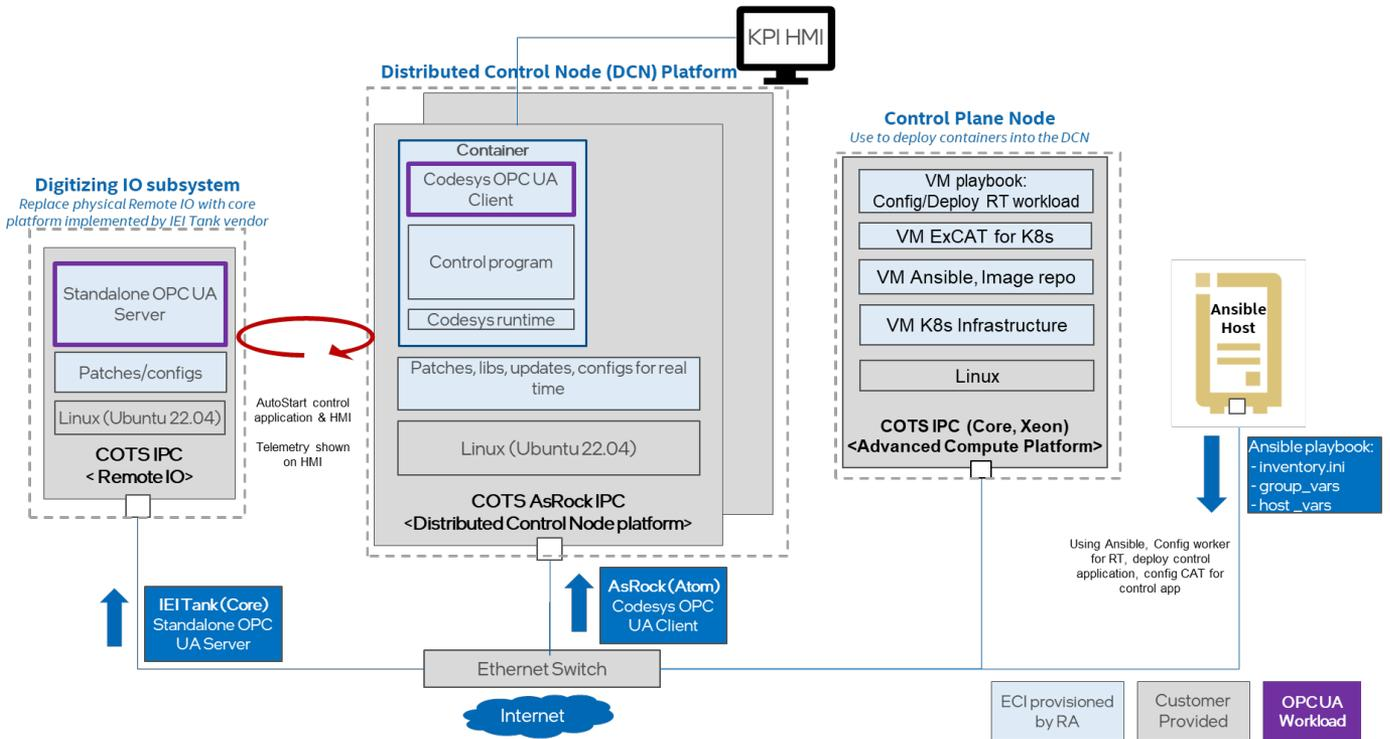

Figure 1: RA Deployment Setup for Factory Process Automation
2. Update the `inventory.ini` file to match the deployment setup. The values for <* hostname> and <* IP> must be updated to match the target systems in the BMRA cluster, as shown in Figure 1.